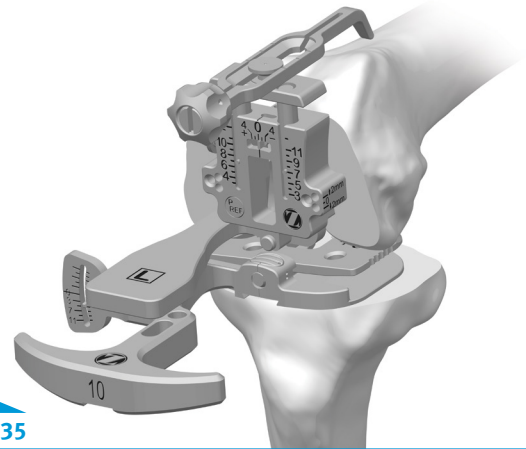

Fig. 35
- Position the tip of the *Zimmer FuZion Sizer* stylus onto the anterior cortex and size the femur (**Fig. 35**).